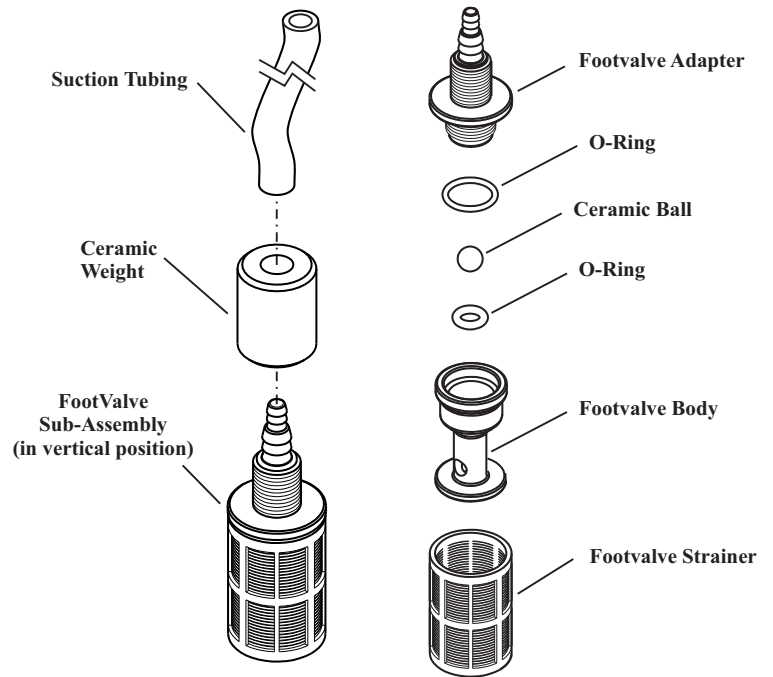

FIG. 4.7 FOOTVALVE ASSY.
- ☑ Periodically clean the suction strainers. Fig.4.7